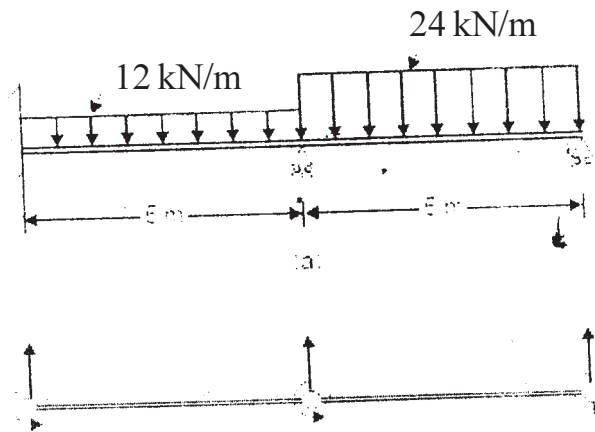

Fig.7.
b) Analyze the beam shown in Fig. 7 by finite element method and determine the end reactions. Also determine the deflections at mid spans given $E = 2 \times 10^5 \text{ N/mm}^2$ and $I = 5 \times 10^6 \text{ mm}^4$. [12]